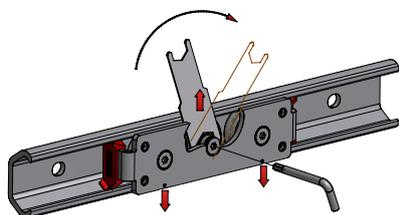

Fig. 1
- 1) The carriage must be adjusted using the provided sheet metal spanner in accordance with figure 1. To do this, slightly slacken the fastening screw on the back of the runner rail and insert the runner into the profile rail without the wiper.